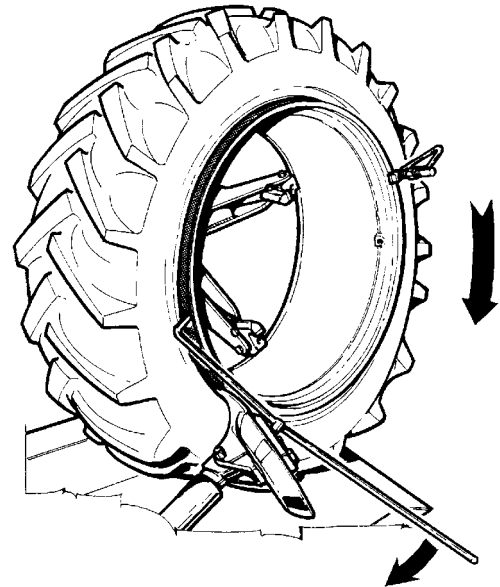

Fig.51
7. Place the hook tool as described in 5.5.2. Rotate the chuck clockwise till the tire bead is completely mounted. If necessary, use the bead bar to keep the bead in the drop center (fig.51).